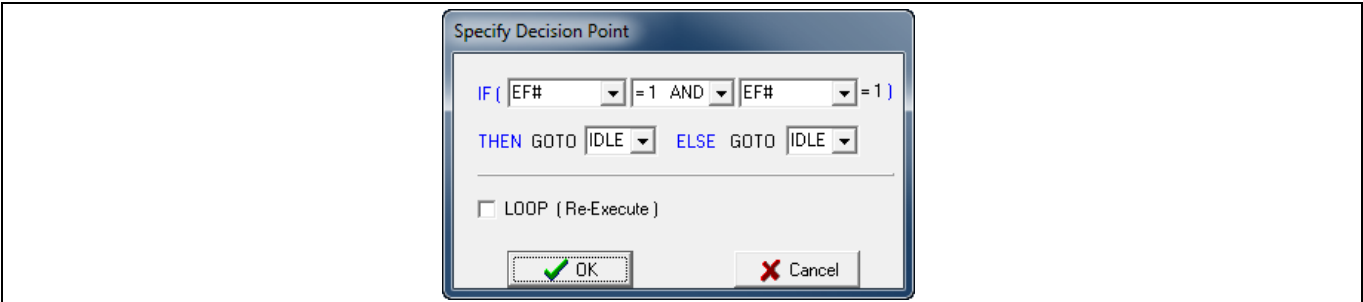

Figure 43 Unconditional Branch to IDLE
- Create a decision point state S1 to implement the branch back to the IDLE state. Click in the Status band at the right boundary of S0; then, set an unconditional branch as in Figure 43.